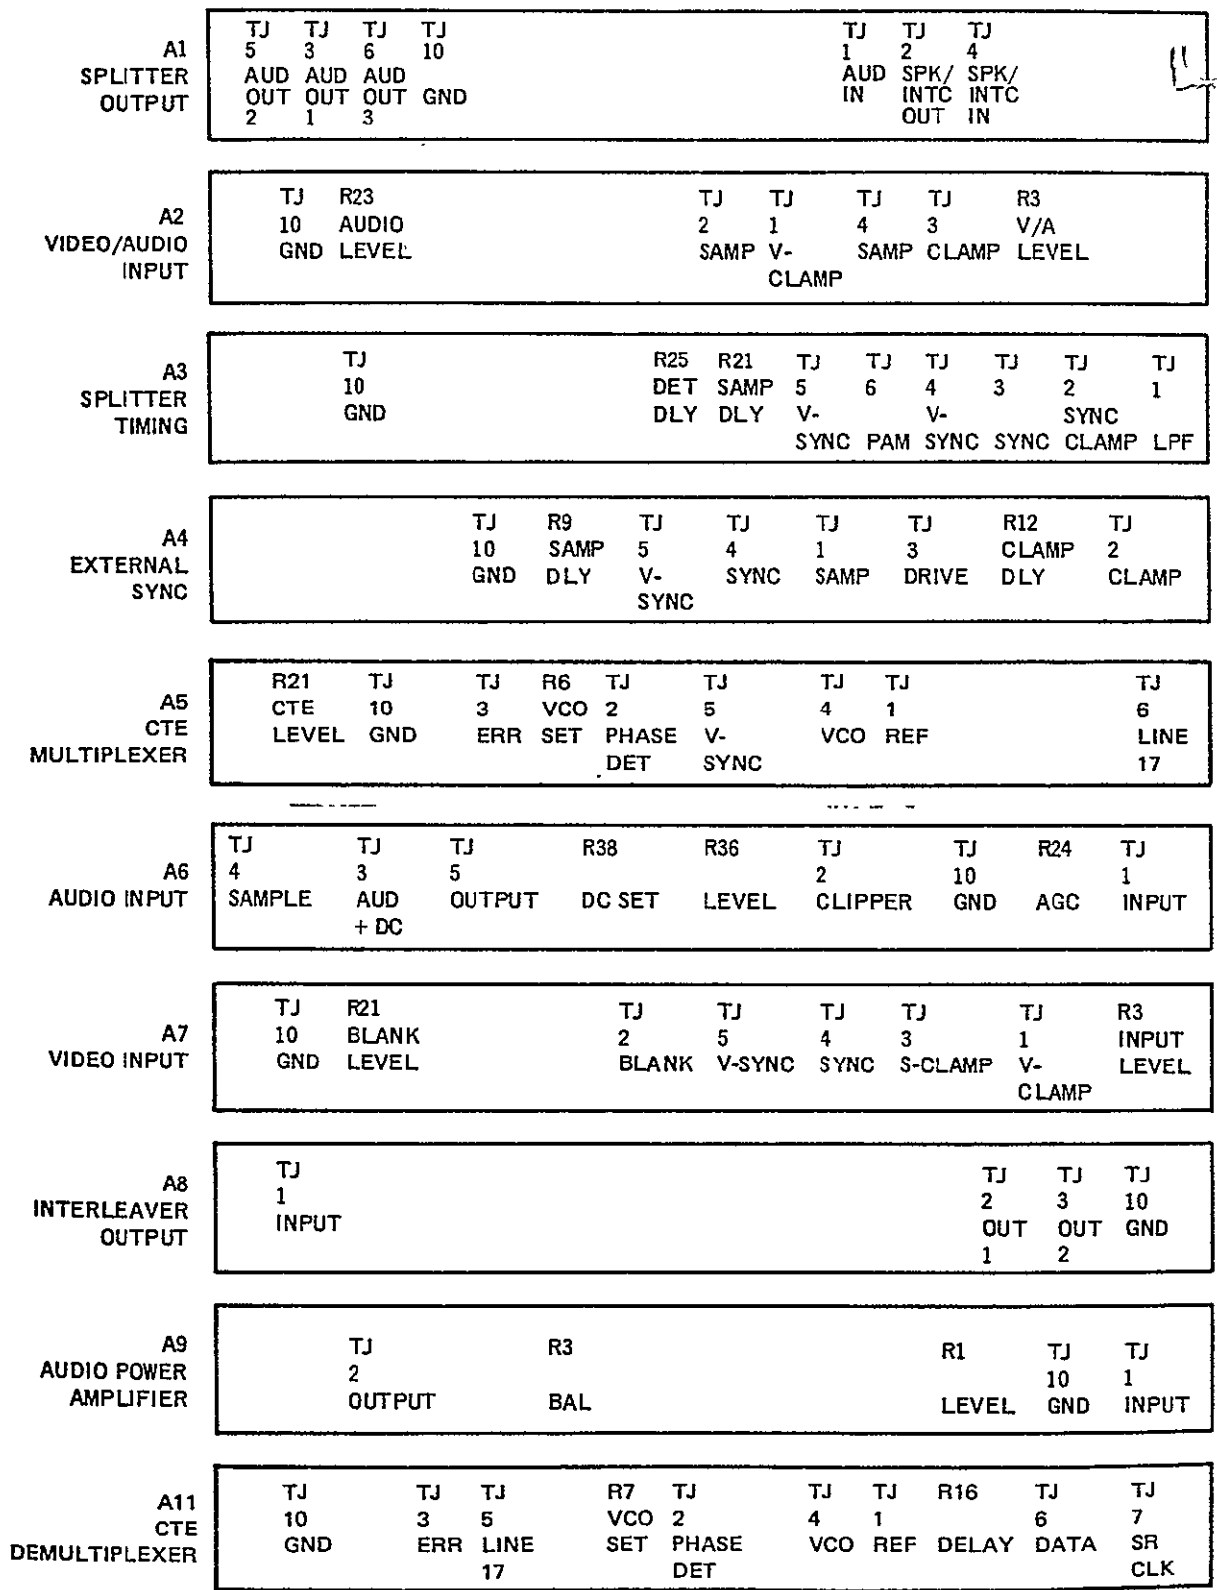

Figure 5-3. Module Nest Top View, Test Jacks and Setup Controls
4. Figure 5-3. Top View of Unit, Test Jacks and Setup Controls.
### 5.3.1.2 Interleaver Alignment (Refer to Figure 5-3 for location of test jacks and controls on the modules)
~~5.3~~ - 2.5 CTE Mux Adjustment (Refer to Figures 5-3 and 5-51)
~~5.3~~ - 3 Splitter Alignment (Refer to Figure 5-3 for location of module test jack and controls)
Location of module test jacks and controls, Figure 5-3.